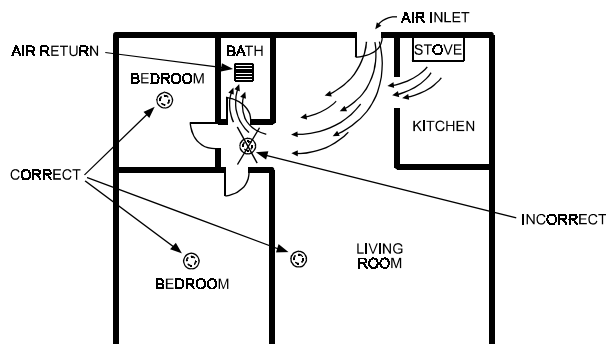

Figure 6: Recommended Smoke Alarm Locations to Avoid Air Streams with Combustion
- B. In air streams passing by kitchens. Figure 6 shows how a detector can be exposed to combustion particles in normal air movement paths, and how to correct this situation.